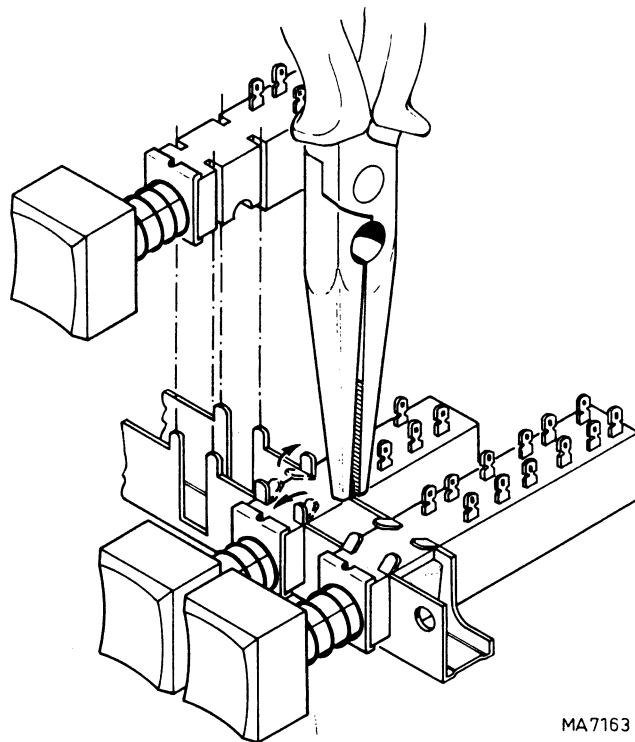

Fig. 3.21. Replacing a push-button switch
- Straighten the 4 retaining lugs of the relevant switch as shown in Fig. 3.21.